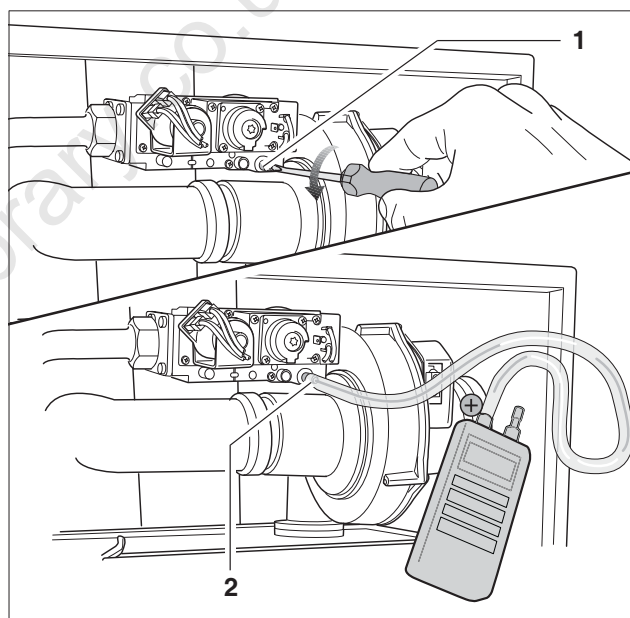

fig. 94 Checking the gas/air ratio
- Open the screw plug on the testing nipple for the burner pressure by 2 turns (fig. 94, **item 1**).
- Use a connection tube to connect the positive port of the pressure gauge to the testing nipple for burner pressure (fig. 94, **item 2**).